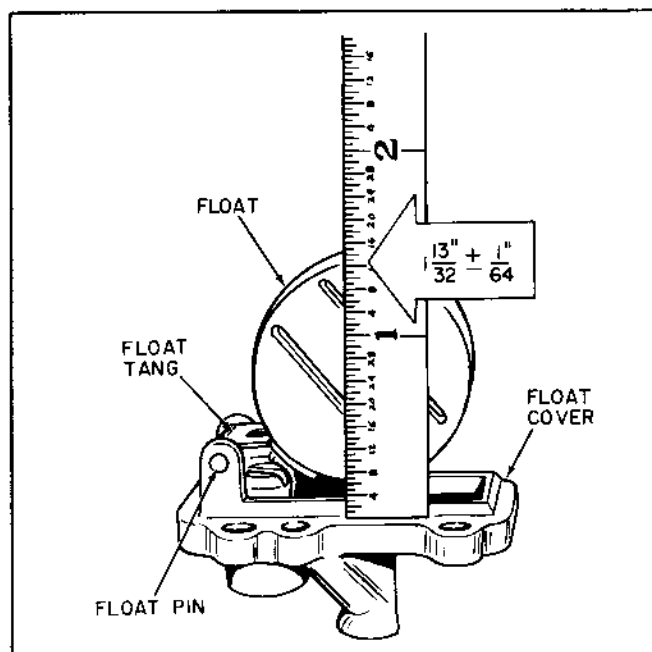

Figure 3-20
- (2) Adjust idle and main metering screws as covered in Part II, Section 2, paragraph K.
- (3) Start engine and allow to warm up to operating temperature, make sure choke is fully opened after warming up. Run engine at full throttle speed but with no load.
- (4) Hold throttle half way open and turn main adjusting needle in or out from initial setting to achieve smoothest operation of engine. A slightly rich adjustment is preferred for lawnmower applications to compensate for the added engine load during mowing.
- (5) Back off idle speed regulating screw so that it is out of engagement with throttle. Move throttle lever so that engine will operate at its slowest speed without stalling. With throttle lever held in this position, adjust idle adjustment needle in or out from its initial setting until smoothest idle operation is attained.
- (6) Turn idle speed regulating screw in until an idle speed of 1800 rpm is attained. Use a tachometer to determine the correct speed.
- (7) Allow engine to idle a short time and then move throttle lever to operating speed. Repeat several times. If engine does not pick up speed immediately, or if it has a tendency to stall, readjust main adjusting screw to provide proper fuel mixture.
- (8) On Tillotson MT, to check float level, (Fig. 3-20) invert float and cover assembly so that valve inlet needle is fully seated and measure from the edge of the float cover to the top edge of the float. This dimension should be $1\frac{13}{32}$ inches $\pm$ $\frac{1}{64}$ inch. To adjust float level, remove float pin and float, and carefully bend tang on float up or down to obtain correct measurement.